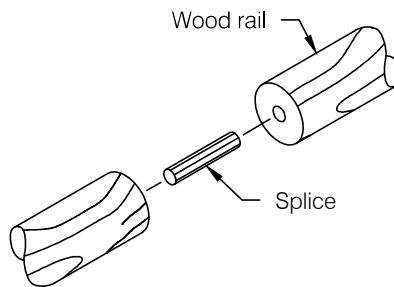

fig 8
- A maximum of 3" from end of wood at splice to provide support at splice, see **fig 8**
- Step 11:** Refer to **fig 8** for splicing of wood rail. Locate splice a maximum of 3" from bracket. Using installation jig, drill 3/16" diameter pilot hole 1" deep in opposing ends of wood rail. Using a 3/8" diameter drill increase pilot hole for 3/8" diameter dowel pin. Apply a small amount of adhesive in each hole, insert dowel pin, and butt rails tightly together.